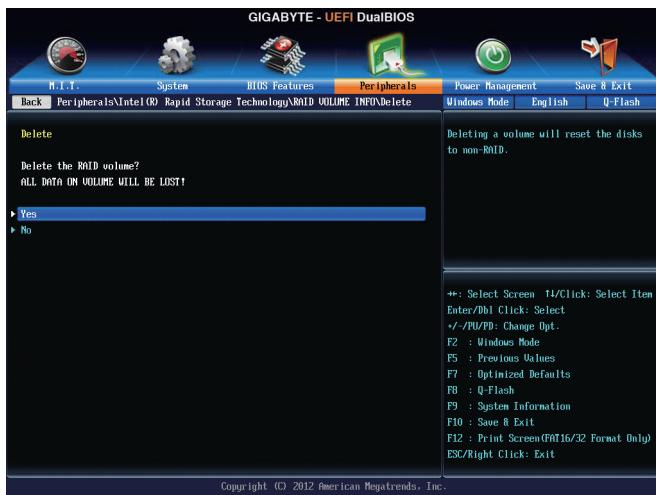

Figure 8
To delete a RAID array, press <Enter> on the volume to be deleted on the Intel(R) Rapid Storage Technology screen. After entering the **RAID VOLUME INFO** screen, press <Enter> on **Delete** to enter the Delete screen. Press <Enter> on **Yes** (Figure 8).